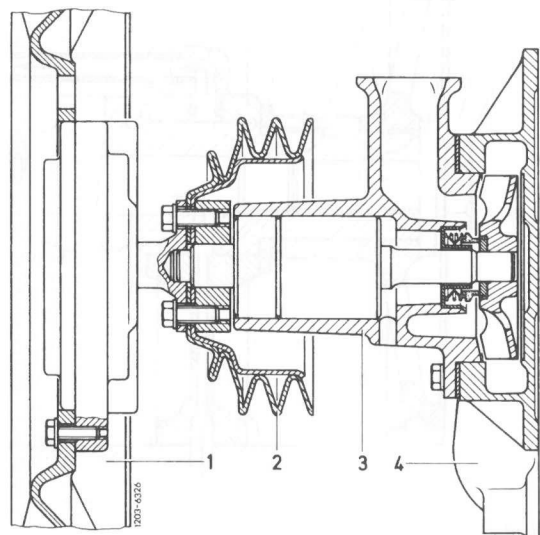

Fig. 105
The water pump consists of the impeller (4) and the bearing housing (3) and is bolted to the crankcase. The flange of the water pump carries a 3-groove pulley (2) and a centrifugally controlled visco fan clutch with an 11-blade fan (Fig. 105).